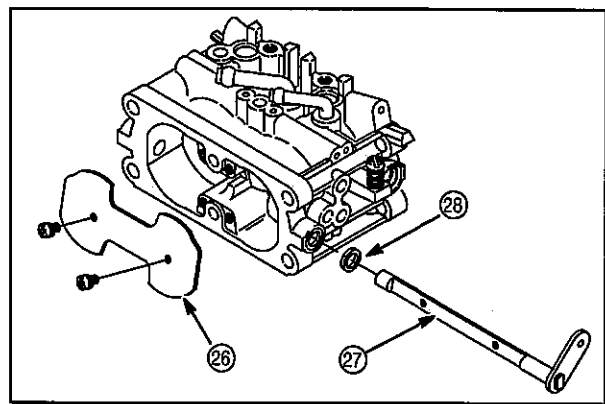

Fig. 67
12. Mark choke plate (26) before removing to ensure reinstallation in the original position, Fig. 67.
13. Remove choke shaft (27) and seal (28).